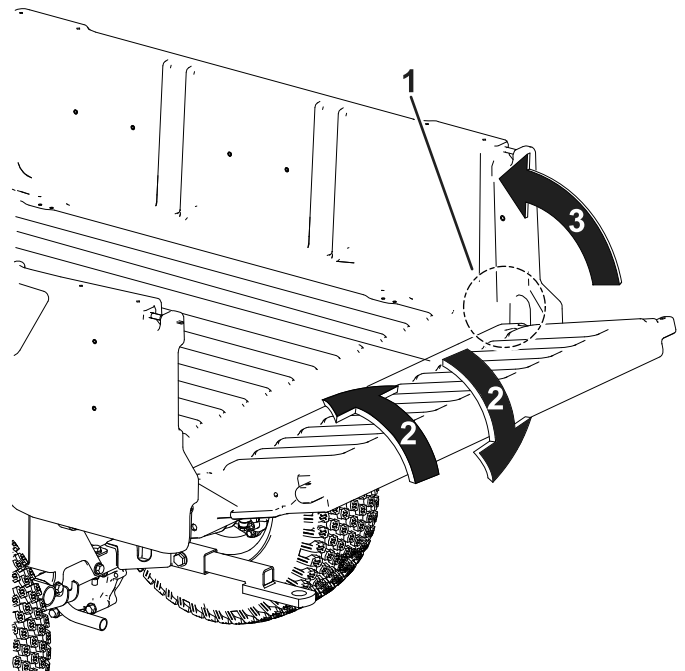

Figure 20
2. Rotate the tailgate to approximately the 45° position (Figure 20).
3. Use a short, shaking motion to rotate the tailgate back and forth several times (Figure 20).